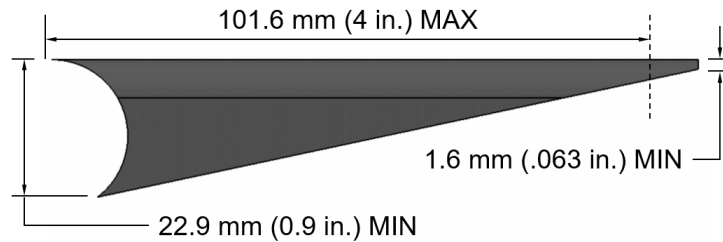

Figure B-47: Allowable Taper
- 3) Allowable cross section: Brackets shall have a “C” cross-section. The supporting gussets may be tapered as shown in Figure B-47, and shall be a minimum 22.9 mm (0.9 in) tall at the weld. Flat brackets are not permitted.